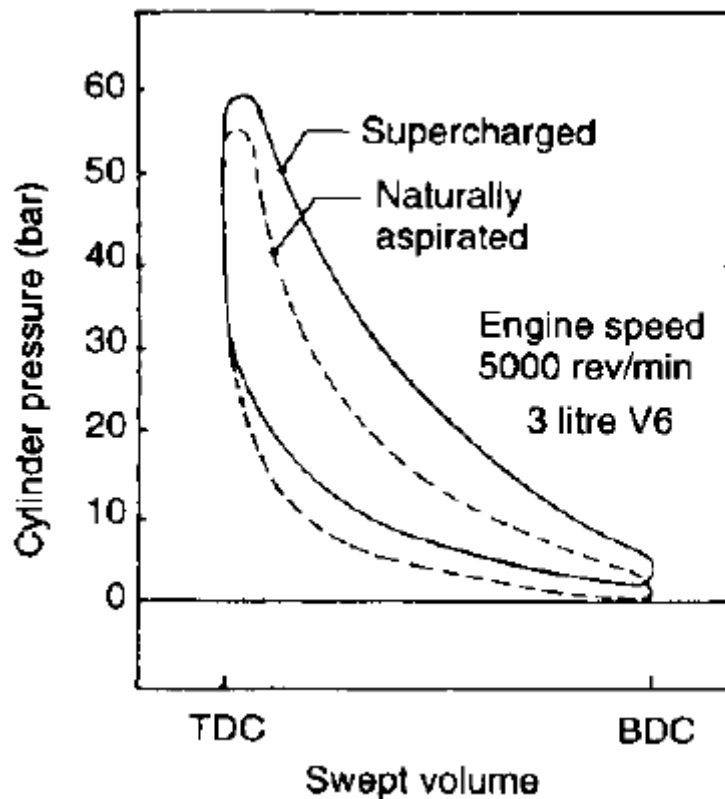

Figure 2
- (c) Explain the comparison of actual naturally aspirated and supercharged engine as shown in the **Figure 2** below. (10 marks)